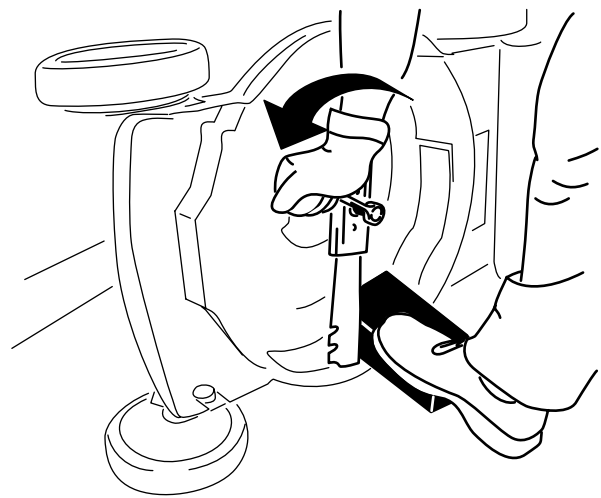

Figure 33
3. Use a block of wood to hold the blade steady (Figure 33).
4. Remove the blade, saving all mounting hardware (Figure 33).